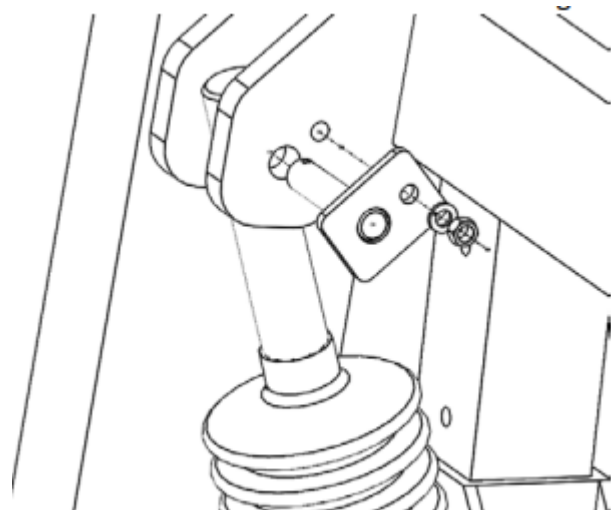

Figure 13
2. Insert one (1) 3/4" Cylinder Pin into the cylinder mounting plate through the Hydraulic Cylinder upper mounting hole as shown in Figure 13.
3. From the inside of the mounting plate, insert one (1) 3/8" Hex Bolt through the mounting plate and the hole on the Cylinder Pin shown in Figure 13.
4. Attach one (1) 3/8" Lock Washer and one (1) 3/8" Hex Nut to the protruding end of the Hex Bolt and fasten with appropriate wrench until secure as shown in Figure 13.
5. Repeat these steps for the remaining three (3) Hydraulic Cylinders.